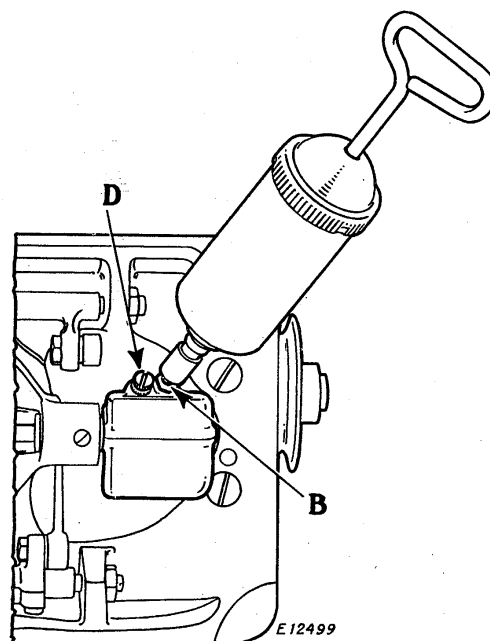

Fig.5.
To supply grease to the lower gear case (Fig. 5), lay the machine back on the table, remove the level hole screw (D, Fig. 5) and force the lubricant into the Alemite fitting (B, Fig. 5) until it emerges from the level hole at (D), then replace the screw (D).